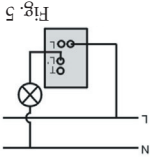

Fig. 5
- To replace a one way switch. (See Fig.5)